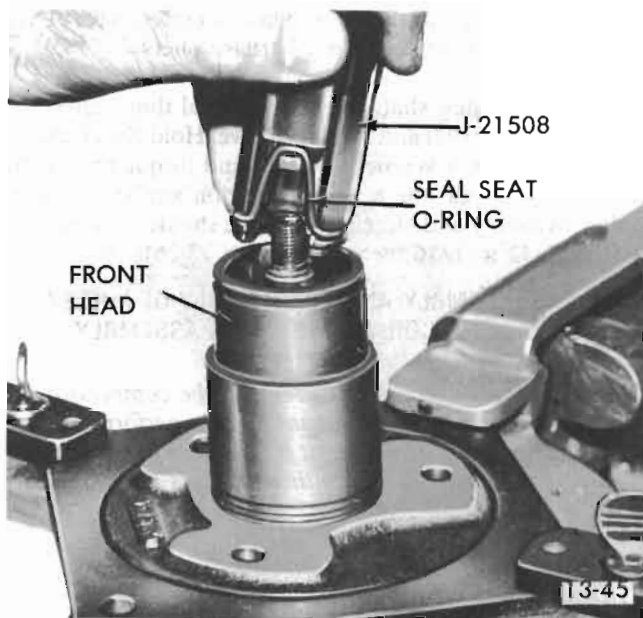

Figure 13-22 Installing Seal Seat O Ring
1. Coat the new seal seat "O" ring with clean refrigeration oil and install it in its groove in the compressor neck. Tool J-21508 may be used to accomplish this (see Figure 13-22).